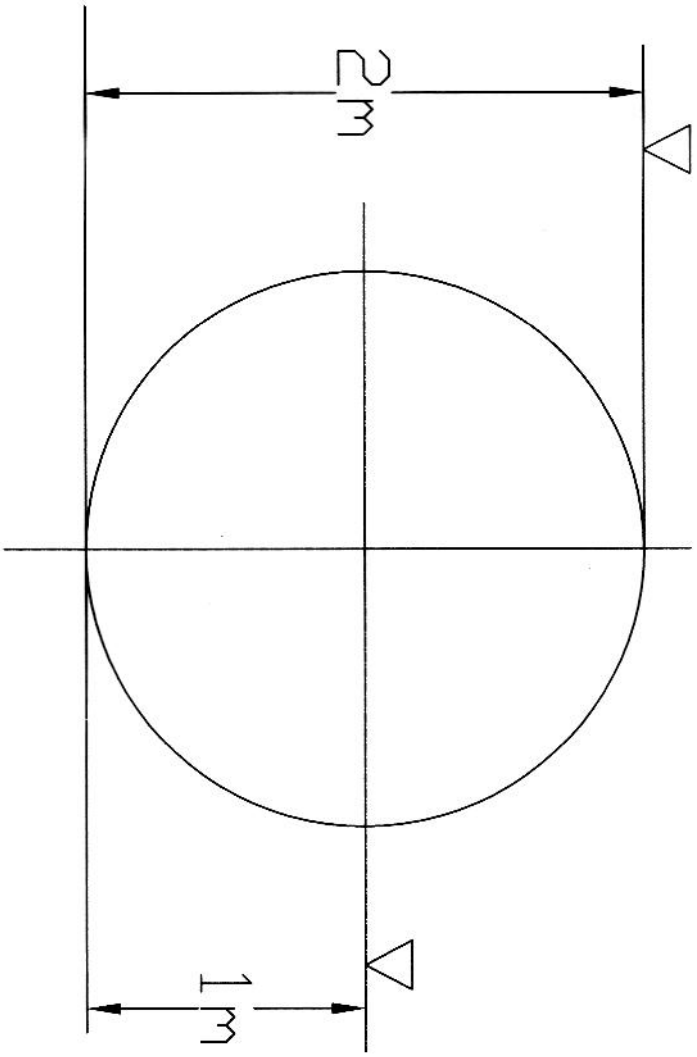

Fig 1
- 1(a) Derive the expression of resultant hydrostatic force on an inclined plate submerged in a fluid of specific weight is  $\gamma$  N/m3. Hence derive the expression of centre of pressure of that resultant force. (8)
- (b) Fig 1 shows the water level on both sides of a cylindrical gate that lies across the full width of an open channel . If the cylinder is 2 m in diameter and 1.5 m width , determine